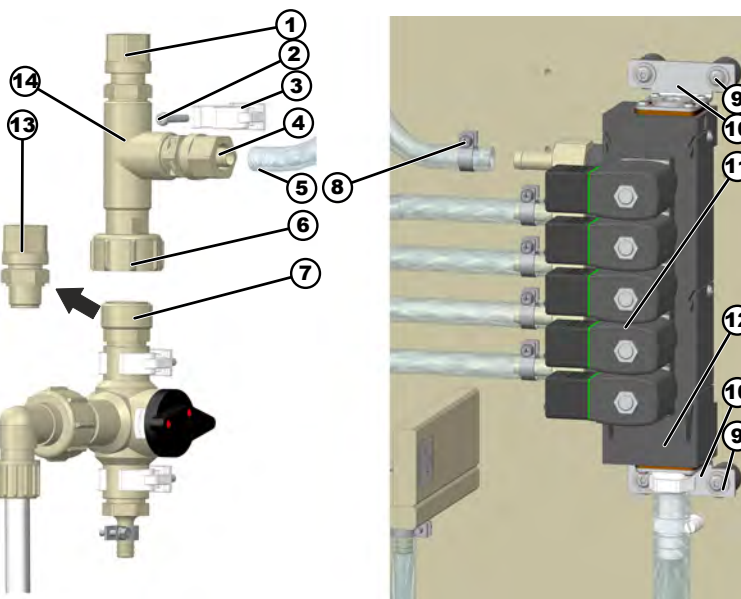

Fig. 12: Assembly water flushing
3. ➤ Loosen the fastening screws on both sides (4 x, Fig. 12, no. 14) on the fastening brackets (2 x, Fig. 12, no. 11).
5. ➤ Loosen end piece (Fig. 12, no. 12) and pull off.